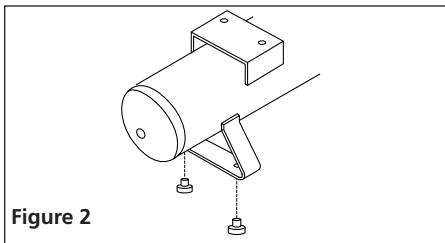

Figure 2
Grease push-in rubber feet and slip into ground iron. Position the feet as shown in Figure 2.
5. This product is for use on a nominal 120 volt circuit and has a grounding plug that looks like plug illustrated in Figure 2. Make sure that product is connected to an outlet having same configuration as plug.